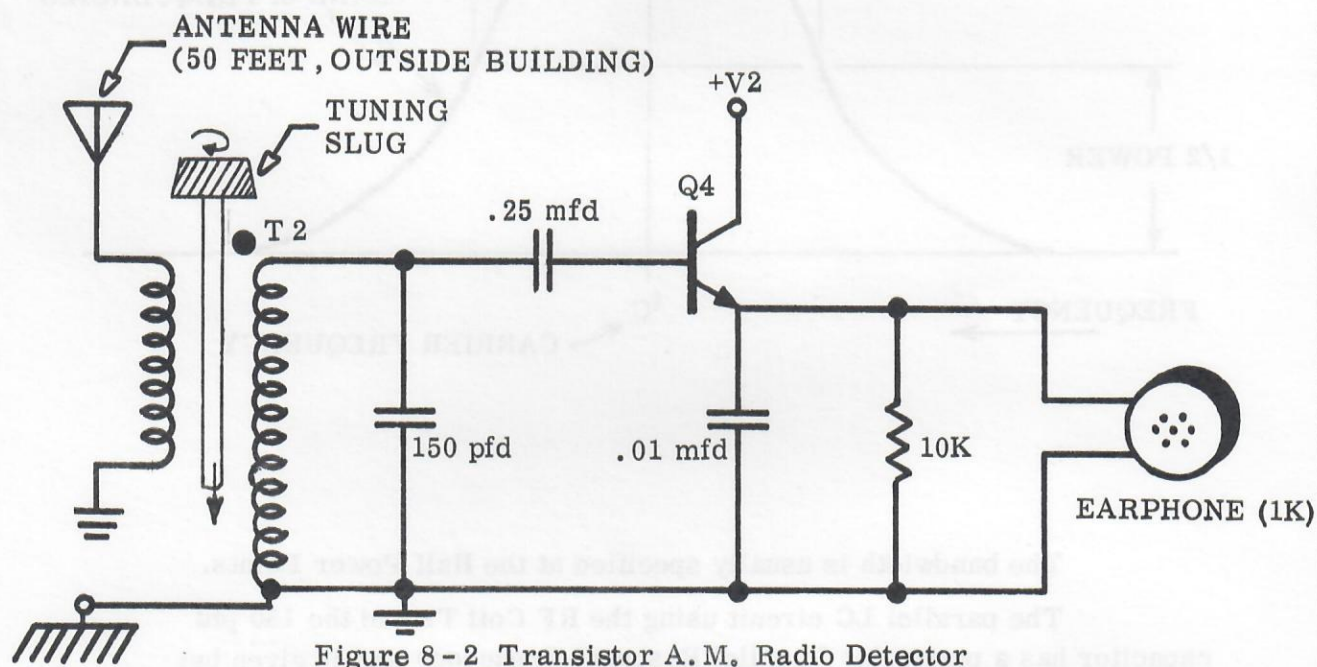

Figure 8-2 Transistor A.M. Radio Detector
Another version uses a Transistor as shown in Figure 8-2. The base to emitter junction acts as the demodulating diode. The transistor provides a high input impedance at the base and reduces loading of the resonant circuit, resulting in a higher signal and a louder audio volume.
3. Change the radio receiver to the Transistor version of Figure 8-2 by removing the 2 wires from the diode, and substituting the transistor base-emitter junction. Then connect the collector to +V2 voltage.